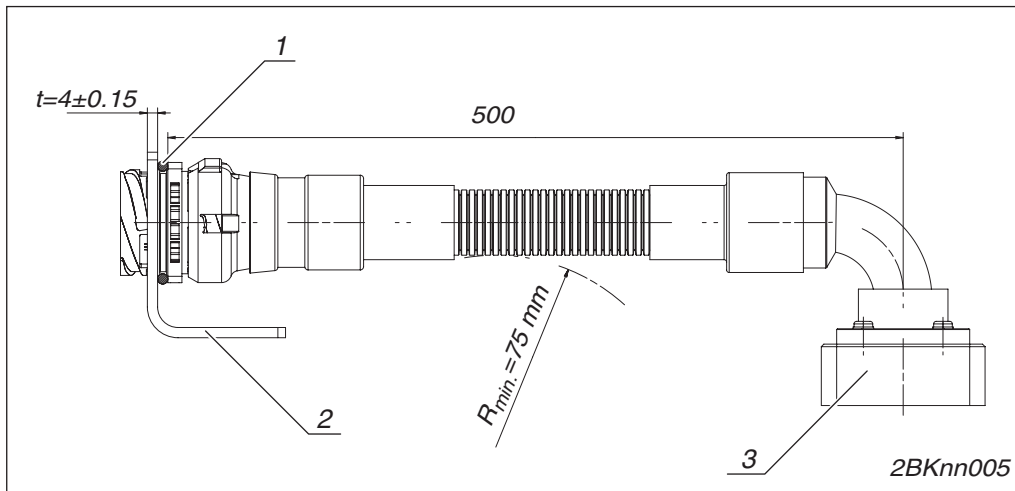

Fig. 2-5 Plug connection between cable feedthrough and transmission cable (cable1)
- ☐ An O-ring → Seite 2-6, Fig. 2-5 is provided. O-Ring 40x4 - FKM 70sw - DIN 3771.